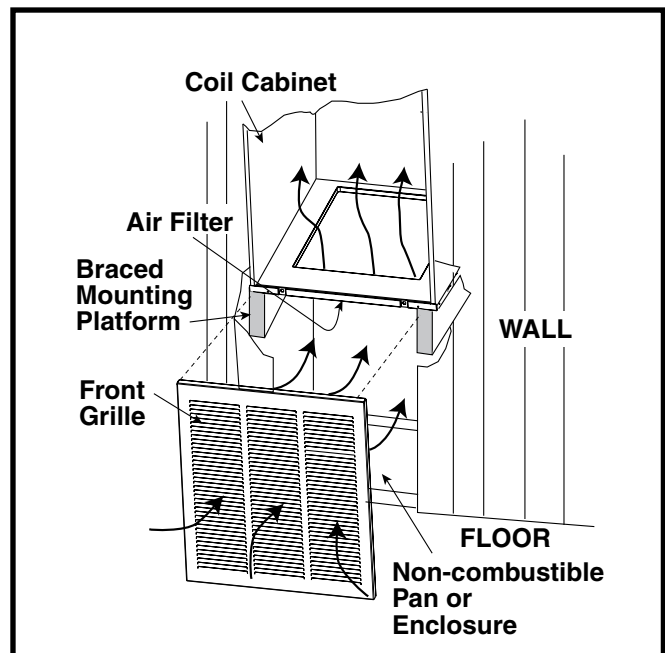

Figure 15. Over-the-Floor Return Air System
1. If floor underneath furnace is made of combustible material, locate a pan fabricated of non-combustible material with 1" upturned flanges under furnace return air opening. See Figure 15.
7. Install return air grille in closet preferably at same level as upflow stand or below mounting platform. See Figure 15.